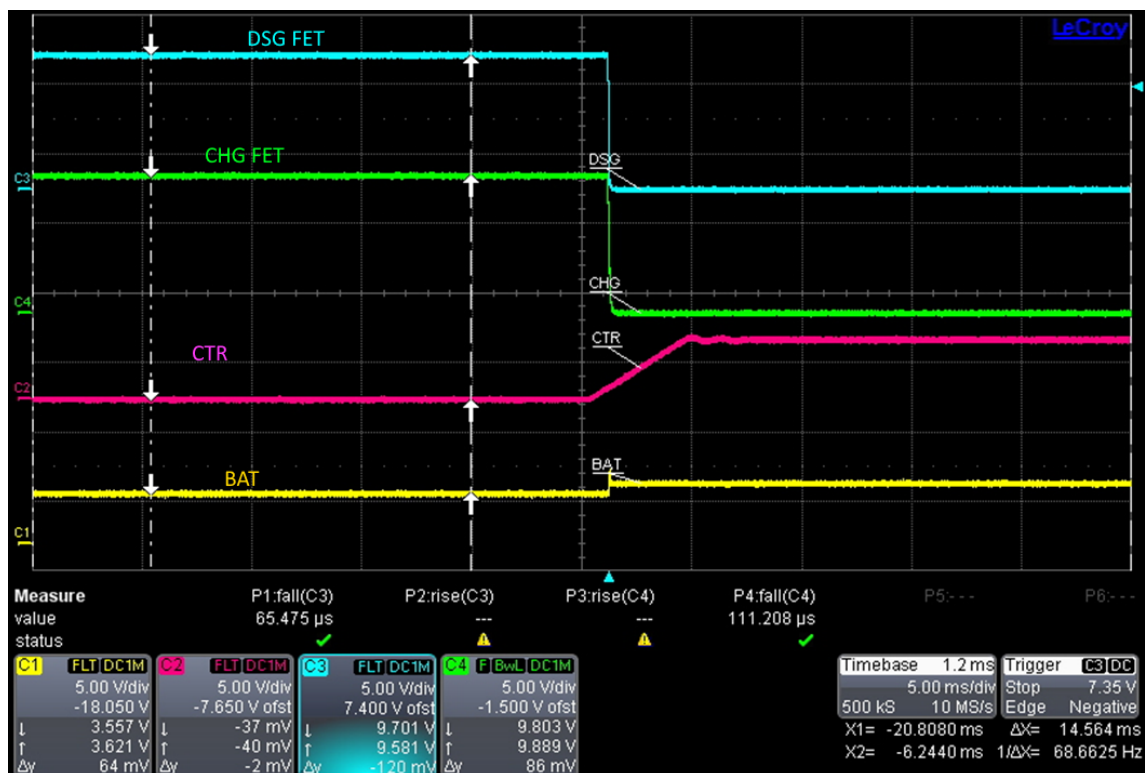

Figure 4. bq2980EVM-PWR883 Demonstration FET Override With Control Pin (CTR)
6. Observe FETs are forced to shutoff as shown in Figure 4.